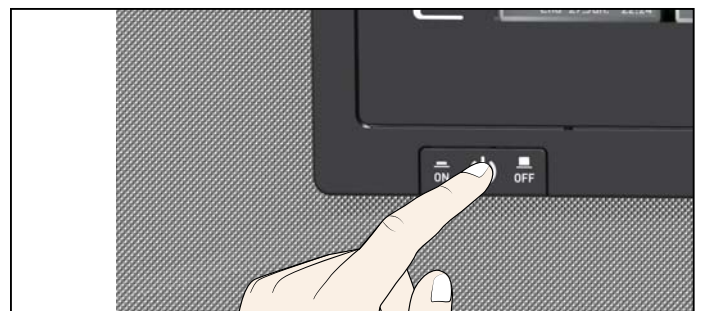

Fig. 23 Switching off the appliance.
4. Switch off appliance (Fig. 23).